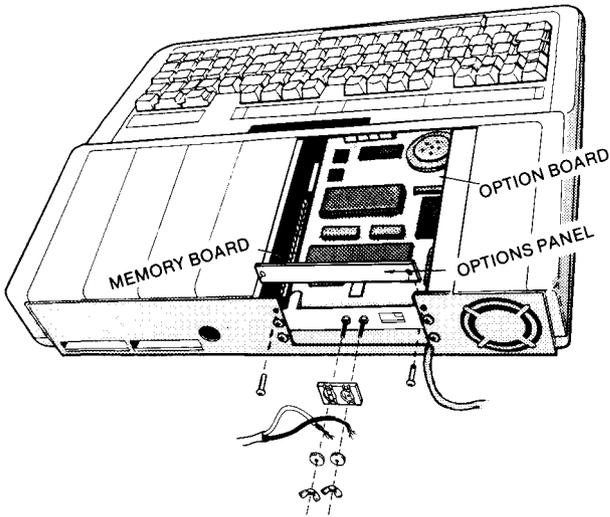

Figure 4
5. Slide the terminal block over the 2 screws that protrude from the back of the computer, with the flat side of the block with 2 round indentations facing to the outside. See Figure 4.